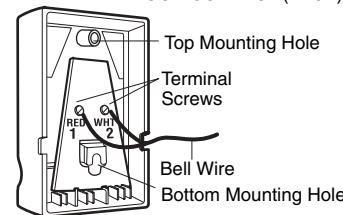

Figure 4 REMOVE COVER
2. Remove white cover by gently prying at slot in the top of the cover with a small flat head screwdriver (Figure 4). Fasten with 6ABx1-1/4" self-tapping screws (drywall installation) or 6-32x1" machine screws (into gang box) as follows: